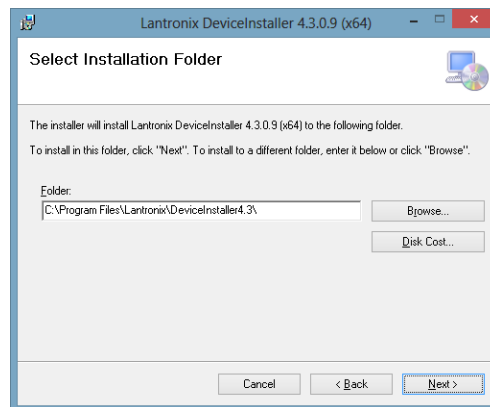

Fig 3.5.1
3.5 In fig 3.5.1, click “Next” to accept the default directory.